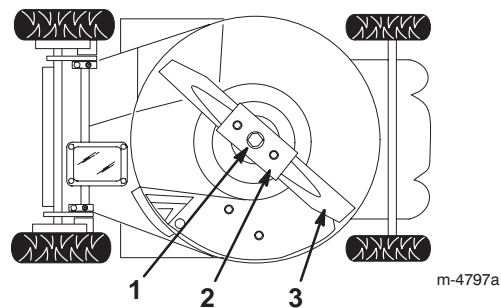

Figure 25
4. Tip the lawn mower on its *left* side (air filter up) (Fig. 25).
2. Remove the blade bolt, the lock washer, the blade, and the blade stiffener (Fig. 25).